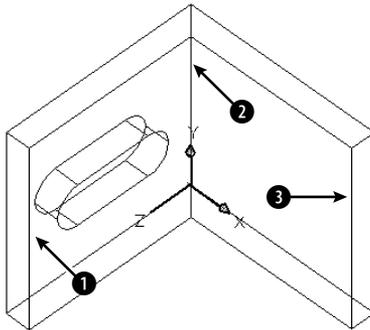
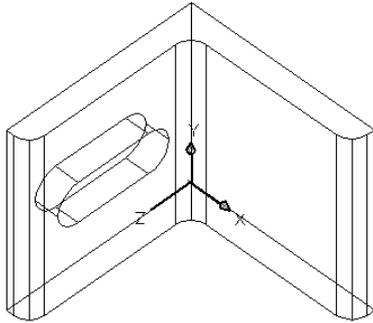

Figure 24-35: The mounting angle needs filleting.
Figure 24-36: The filleted mounting angle.
2. Save the file as `ab24-11.dwg` in your AutoCAD Bible folder. This is a solid model of a mounting angle, as shown in Figure 24-35. It needs to be filleted.
4. At the `Select first object or [Polyline/Radius/Trim/multiple]: prompt`, pick the edge at ① in Figure 24-35.
6. At the `Select an edge or [Chain/Radius]: prompt`, pick ②.
8. Save your drawing. It should look like Figure 24-36.
You can move a face when a solid is complex enough to have at least two separate elements—for example, a plate with a hole in it. You can then move the hole around wherever you want. Look at the mounting bracket in Figure 24-36, earlier in this chapter. You could move the hole from the left face to the right face using SOLIDEDIT. To move a face, follow these steps: